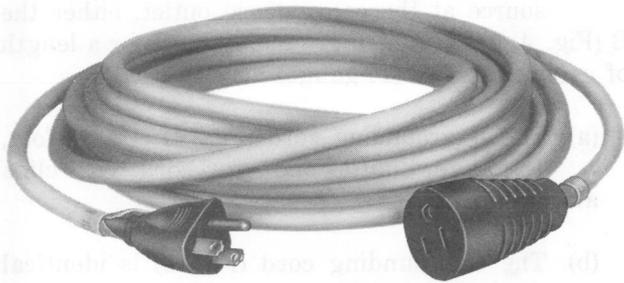

Fig. 6—Extension Cord
3.05 C and D extension cords shown in Fig. 6 are available for connecting power tools to outlet receptables remotely located from the work area. These cords, 30 feet in length, have a standard molded male plug at one end and a standard molded female connector body at the other. The C extension cord is wired with 18-gauge conductors while the D cord uses 14-gauge conductors.